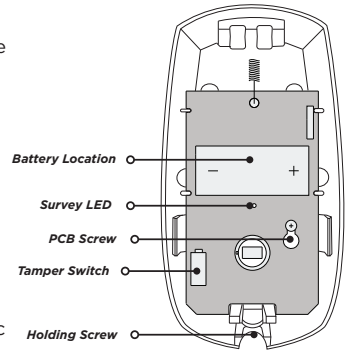

Figure 2: 1122INT Housing and PCB
2. Observing polarity, place the battery in the holder and press into place. See Figure 2 for the battery location.
2. Press the tamper switch to send data to the receiver and determine if communication is confirmed or faulty. See Figure 2 for tamper switch and LED locations.
2. Remove the old battery and dispose of it properly. See Figure 2 for battery location.